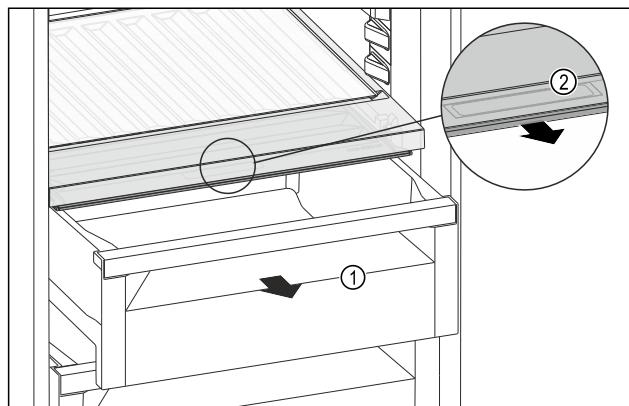

Fig. 147
- ▶ Pull out the drawer Fig. 147 (1).
- ▶ Grasp the recessed grip Fig. 147 (2) on the compartment lid and pull the compartment lid forwards at the same time.